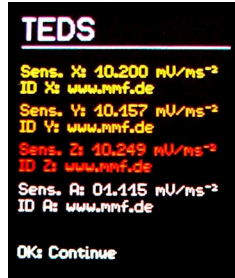

Figure 3:
If the sensor has not yet been connected, plug the sensor cable into the right connector. The VM31 will start TEDS1 detection each time it is switched on or a sensor is connected. It supports IEEE 1451.4 TEDS template no. 25 (with or without transfer function). The sensitivities of X/Y/Z and channel A are displayed for some seconds (Figure 3). For each channel also the user text of TEDS (ID) is displayed.